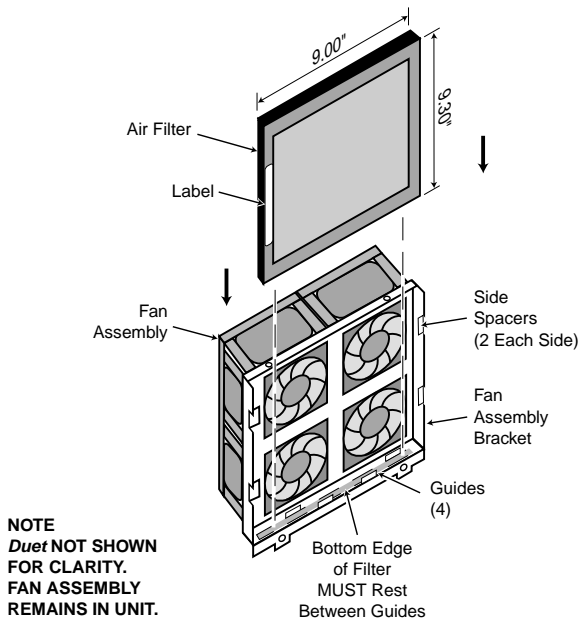

Figure 5-24. Air Filter Installation
- [] 1. Refer to **Figure 5-24**. Slide the air filter into the fan assembly bracket with the white label facing you and to your left. Make sure the bottom edge of the air filter rests between the guides on the bottom edge of the fan assembly bracket. The sides of the air filter slide against the side spacers on either side of the fan assembly bracket.